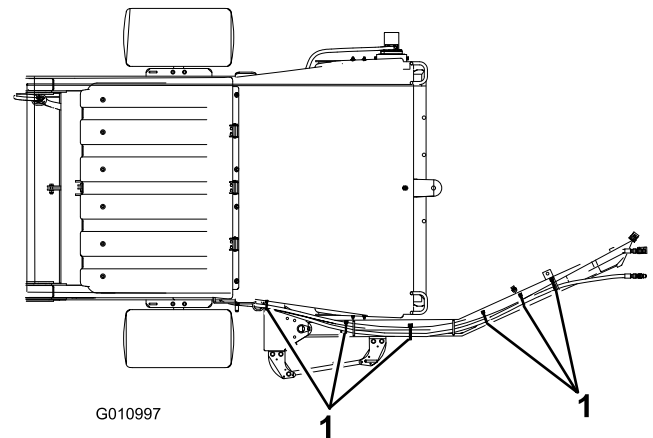
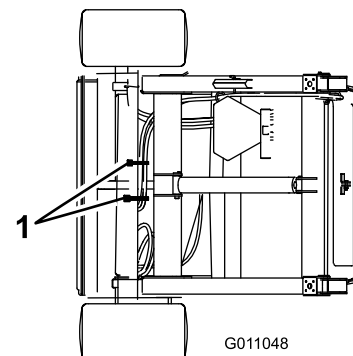

Figure 11
Figure 12
2. Secure the hydraulic hoses and wiring harness as shown in Figure 11 and Figure 12.